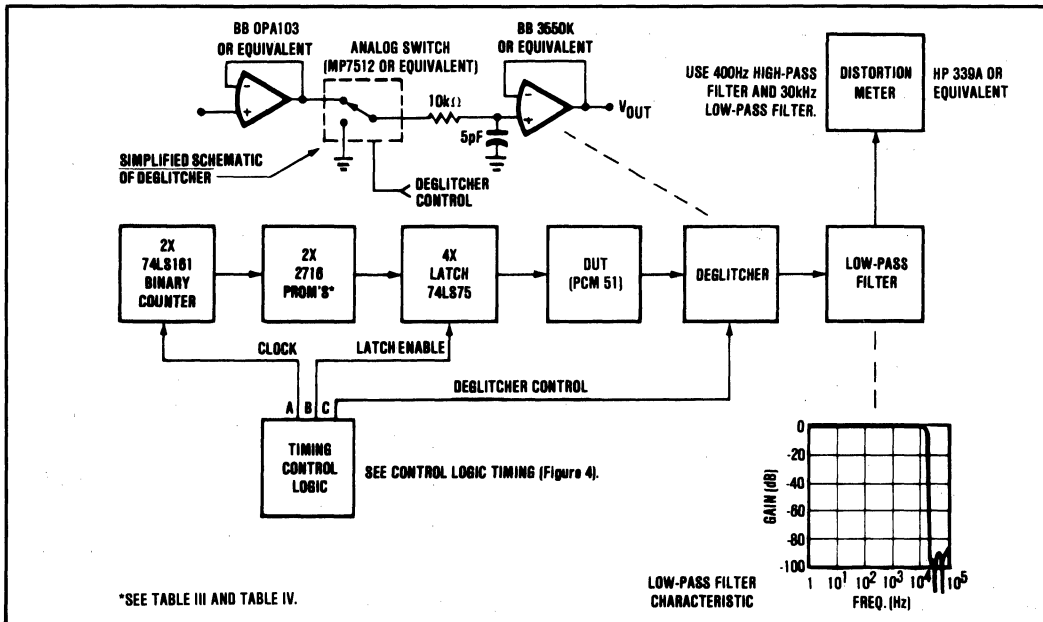
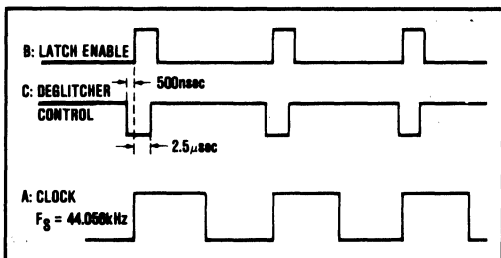

FIGURE 3. Block Diagram of Distortion Test Circuit.
FIGURE 4. Control Logic Timing for PCM51 Distortion Test Circuit.
- measurement circuit is shown in Figure 3. Burr-Brown calculates THD from the measured linearity errors using equation (2) in the section on "Total Harmonic Distortion", and specifies that the maximum THD measured with the circuit shown in Figure 3 will be less than the limits indicated.
The Total Harmonic Distortion (THD) is defined as the ratio of the square root of the sum of the squares of the value of the rms harmonics to the value of the rms fundamental and is expressed in percent or dB. A block diagram of the test circuit used to measure the THD of the PCM51 is shown in Figure 3. A timing diagram for the control logic is shown in Figure 4. The digital input code stored in the PROM as well as the output obtained from an ideal PCM51, the value of an ideal sine wave, and the inherent quantization error are given in Tables III and IV. If we assume that the error due to the test circuit is negligible, then the rms value of the PCM51 error referred to the input can be shown to be
Table III shows the hex code loaded into the PROM's of the Distortion Test Circuit, Figure 3, for 14-bit values and Table IV shows the hex code for 16-bit values. Values